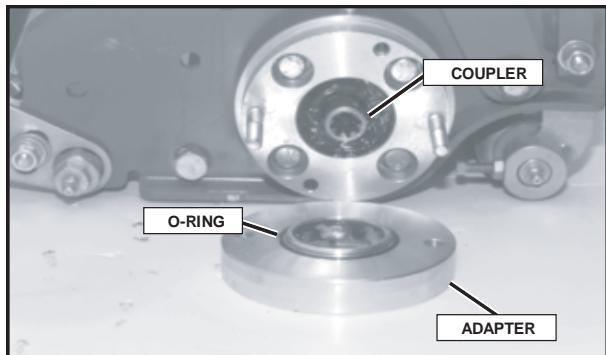

Fig.8.3.1
3. Install coupler on cutting head shaft (See Fig. 8.3.1).
4. Install motor adapter plate positioning the male face and O-ring toward the cutting head (See Fig.8.3.1).